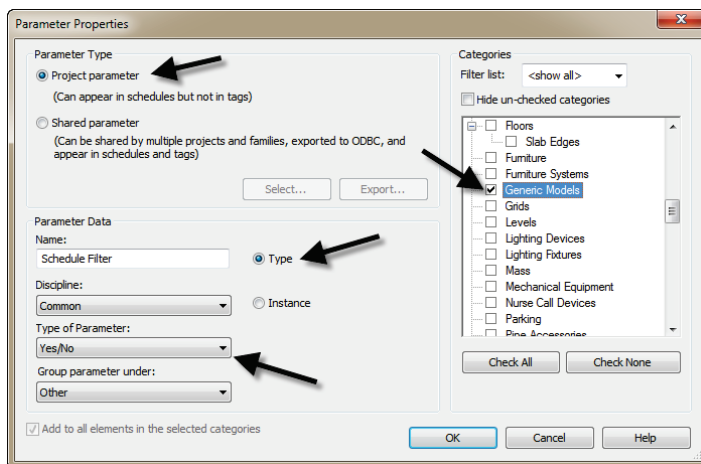

Figure 2—Configure a Yes/No Project Parameter
7. Choose the **Type** radio button. On the right, beneath Categories, check the Generic Models button and then click OK (see Figure 2).